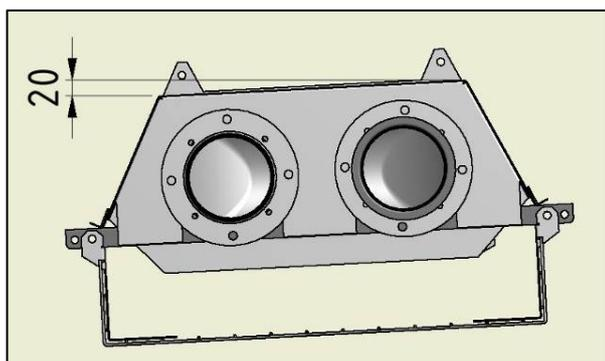

Fig. 48: sideways slope heater in ball protection application
**Note the required sideways slope of the heater of 20mm in ball protection grid application [Fig. 48].**